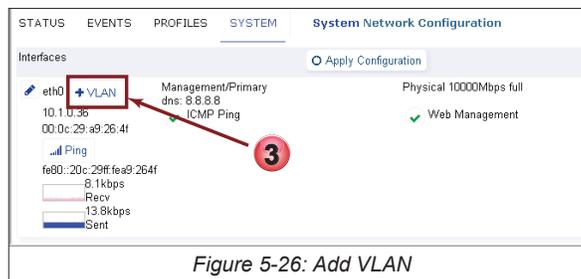

Figure 5-26: Add VLAN
3. Click **+VLAN** on the eth0 interface to add a VLAN for remote Server management, Figure 5-26.